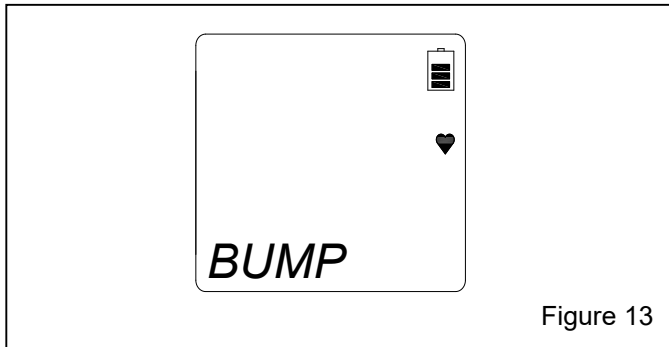

Figure 13
4.2.4 The first screen to appear will be *BUMP*, as shown in Figure 13.